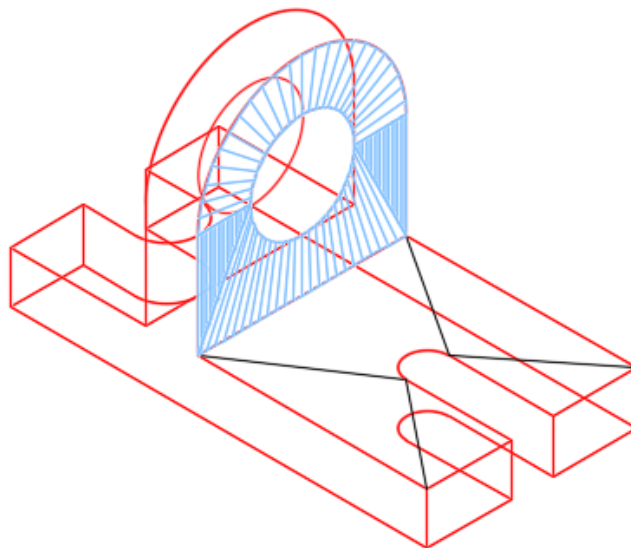

Figure Step 21
Step 21 Change the layer of the existing surfaces to layer: Surface 1 until your model matches the figure. (Figure Step 21)